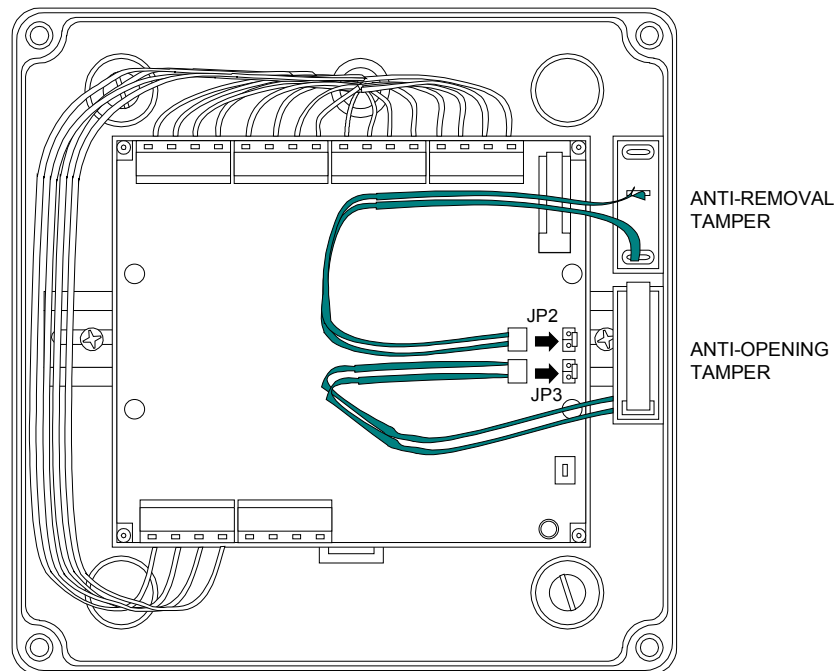

Figure 9. Anti-Removal Tamper Option
3. Connect the anti-removal and the anti-opening tampers to their respective jumpers (JP2 and JP3) on the RTU-A01P unit (see Figure 9).